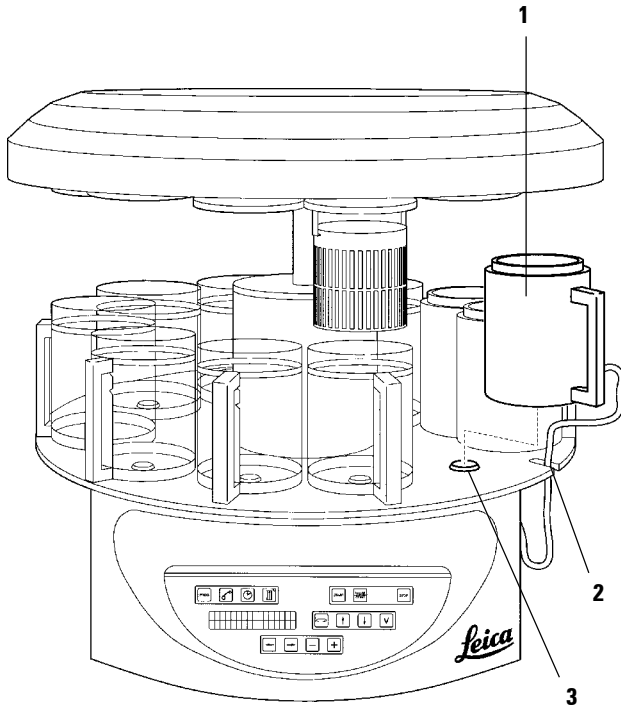

Fig. 25.1
- Mount the reagent containers (1) (glass or aluminum) onto the station holders (2) of the platform as shown in Fig. 25.1.